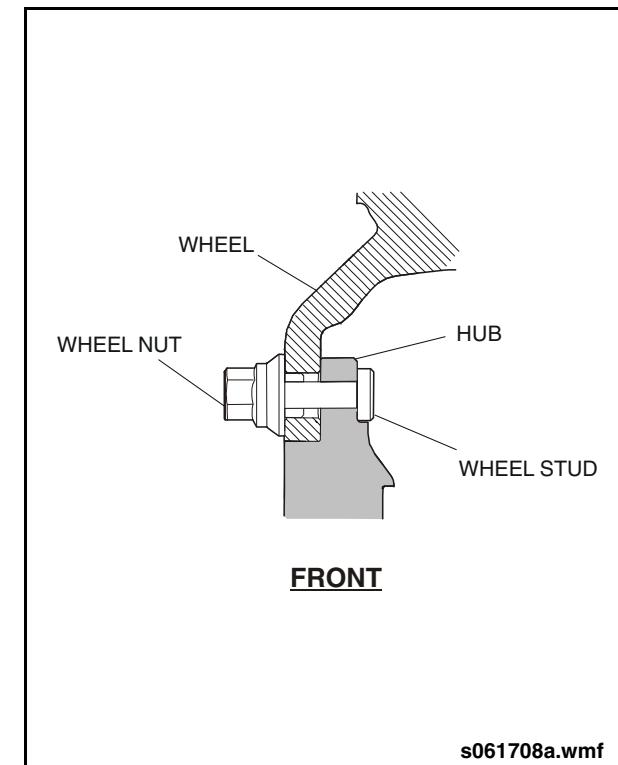

Fig. 1-4: Hub Piloted Wheels
- Align rim stud holes with wheel studs. See "Fig. 1-4: Hub Piloted Wheels" on page 8.